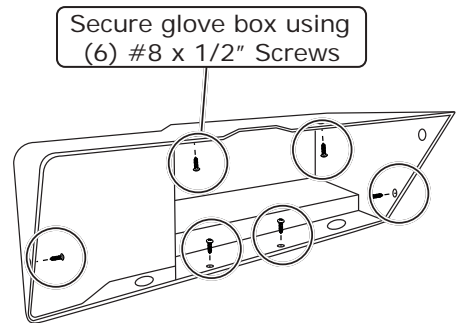

Figure 1
4. Secure the glove box to the dash using (6) #8 x 1/2" screws (See Figure 1, below).
5. Install the glove box door latch using the (2) OEM screws (See Photo 5, below).
6. Install the glove box door using the (3) OEM screws ((2) for the lower mounts and one for the door cable (See Photo 6, below).